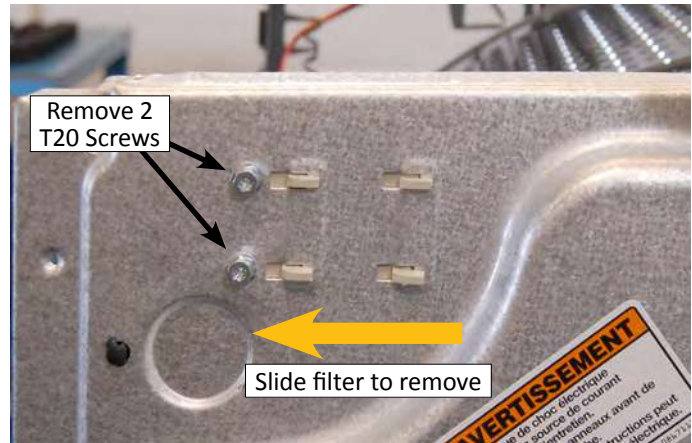

Figure 2
5. Slide the Interference Filter horizontally to release the filter from back panel. See Figure 2.